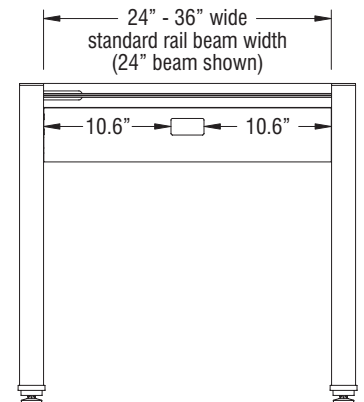

Figure 5 - (front view)
- 36" wide or less beam assemblies have one receptacle cutout per side and dimension locations vary (Figure 5).